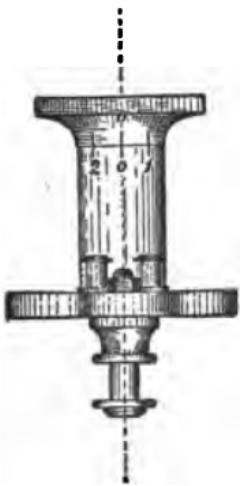
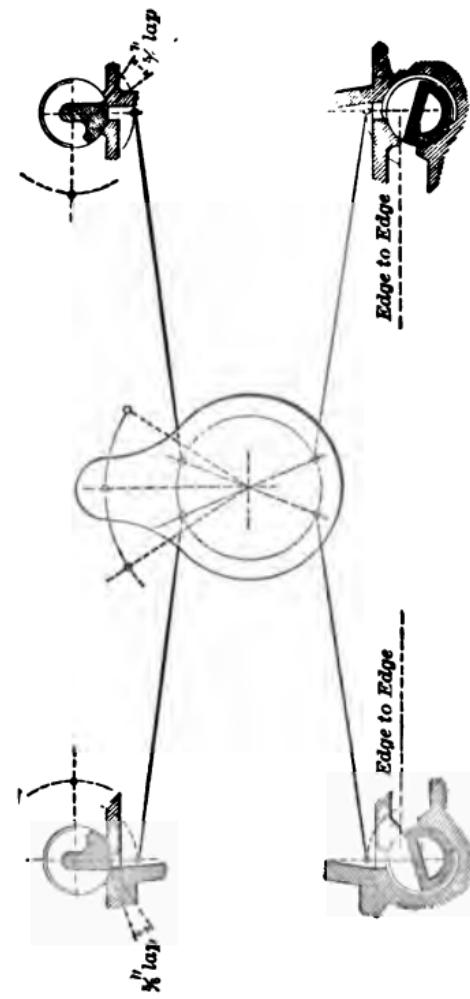

FIG. 107.—WRIST PLATE.
FIG. 110.—VALVE AND WRIST PLATE POSITIONS.
der.) Move the disc plate (see Fig. 107) until line *I* marked on same meets line *O* marked on fixed disc bracket, then adjust the dash pot so that the claw of the valve connecting rod to steam valve engages the blow block free and easy ; repeat this with the other steam valve connecting rod.
and with the hand lever (which insert in disc plate for the purpose) move the valve gear to one end of its travel, as indicated by lines 1 and 2 on disc plate and centre line O on fixed disc bracket (see Fig. 107) and adjust the rods so that the steel trip toe on the cut-off cam just touches the claw without unhitching same. Reverse the disc plate, and repeat this on the other end.
A. Place the valve disc on the centre (O to O fig. 107), remove the back valve chamber
covers where the edges of ports and valves are marked plainly by chiselled lines, and set the valves according to fig. 110. Adjust the length of eccentric rod so that the valve disc swings equal both ways from the centre line on hub of disc (see fig. 107). Place the valve disc in the centre (lines O and O, fig. 107) and set the valves as shown above, the admission or steam valves to have 5-16 inch lap, the exhaust valves edge to edge. Set the crank on the dead centre. Turn the eccentric ahead of the crank pin in the direction the engine is to run until the valve shows 1-16 inch opening, then secure the eccentric. Turn the crank in the same direction around to the other dead centre. If any difference of opening is detected, it can be adjusted by the nuts on the eccentric rod, moving the rod in or out as the case may require.